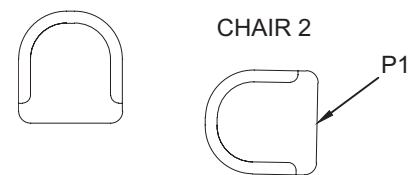

Figure 3-12
P2→ (be sure **SNAP** is on, and leave enough room to rotate the chair, Figure 3-12)
Step 27. Use the **ROTATE** command to rotate CHAIR 2 (Figure 3-12), as described next:
P1→ (Figure 3-12)